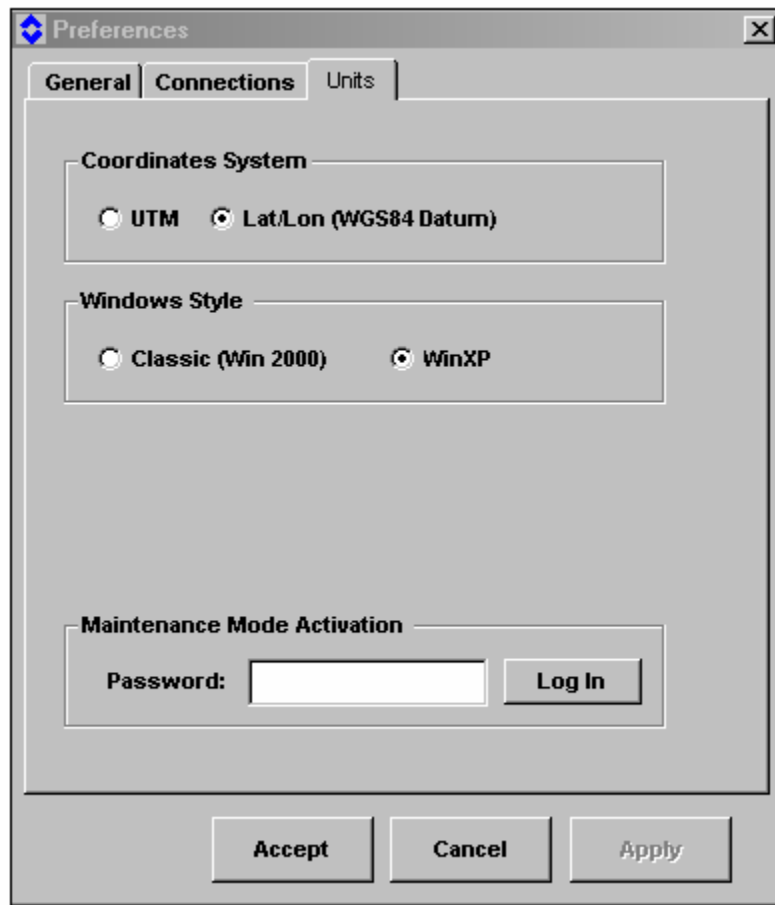

Figure 34 – Preferences Units
- iii) Parameters in the Units tab are defaulted from the setup. The **Maintenance Mode Activation** field is for factory use. See Figure 34 – Preferences Units